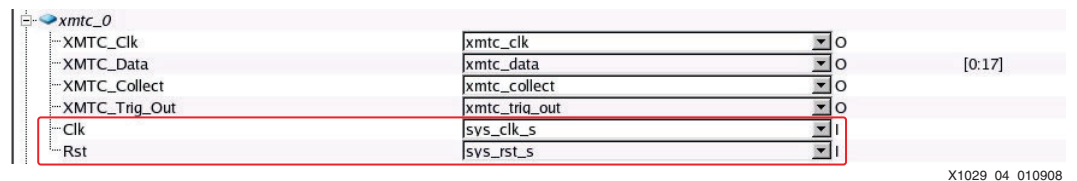

Figure 4: XMTC Ports View
4. Connect the *Rst* and *Clk* ports to the system reset and clock signals respectively. Assign names to the *XMTC_** ports as shown in Figure 4.